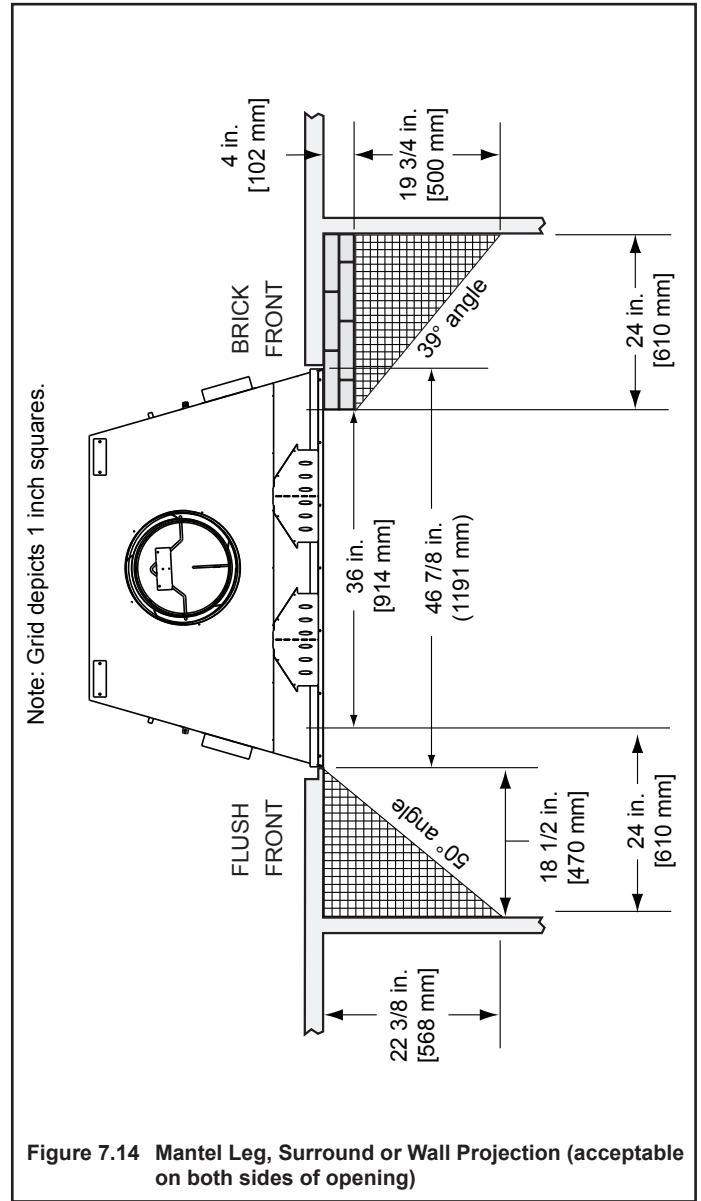

Figure 7.14 Mantel Leg, Surround or Wall Projection (acceptable on both sides of opening)
- Mantle leg, surround, stub wall, whether combustible or non-combustible, may be constructed as shown in Figure 7.14.